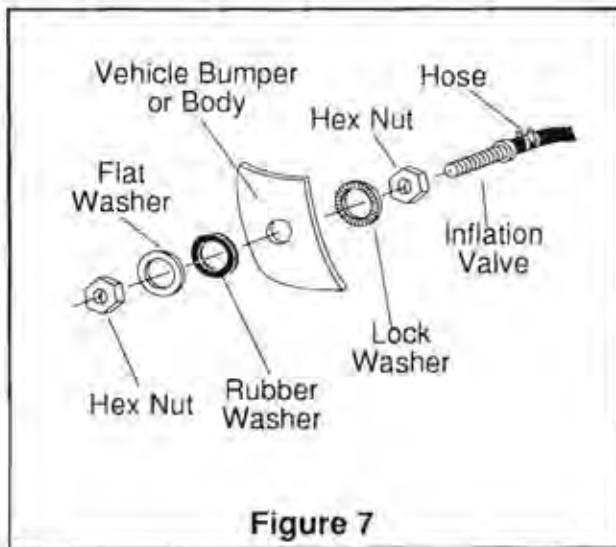

Figure 7
H. Drill 5/16" hole for inflating valves and mount as illustrated (Rubber washer for outside weather seal - Figure 7)